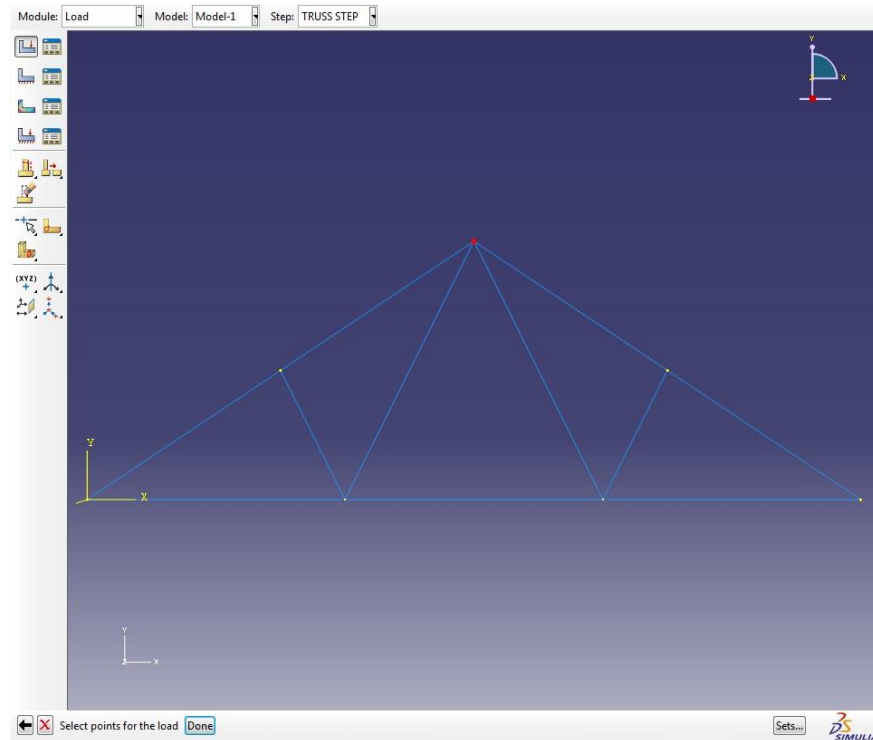

Figure 23. Concentrated Force on Top Node
- At this point all of the available nodes on which the concentrated force can be applied will turn the color yellow. Using the cursor click on the top node of the structure. If this selection is done correctly, the node color will turn from yellow to red (Figure 23).